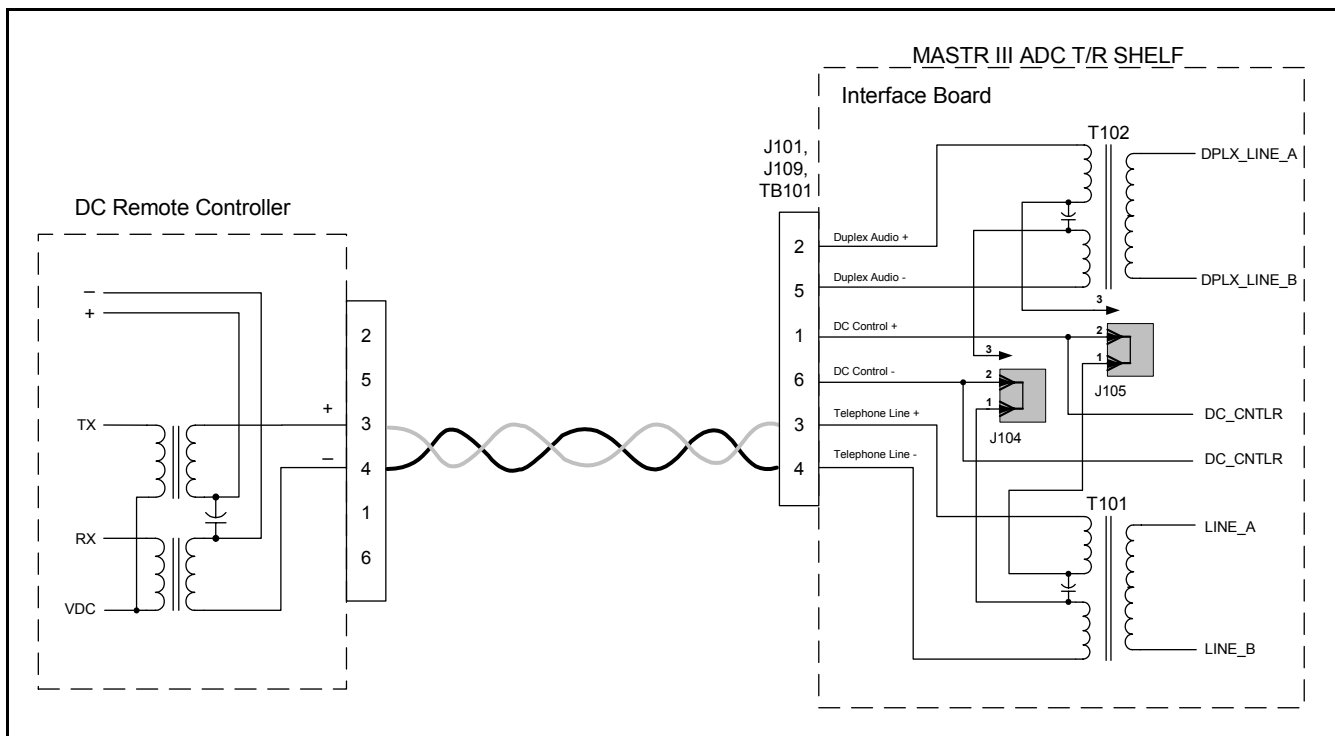

Figure 7-1: Method 1 – Single Metallic Pair
1. Connect the metallic pair to TB101-3 (red) and TB101-4 (green). Refer to Figure 7-1.